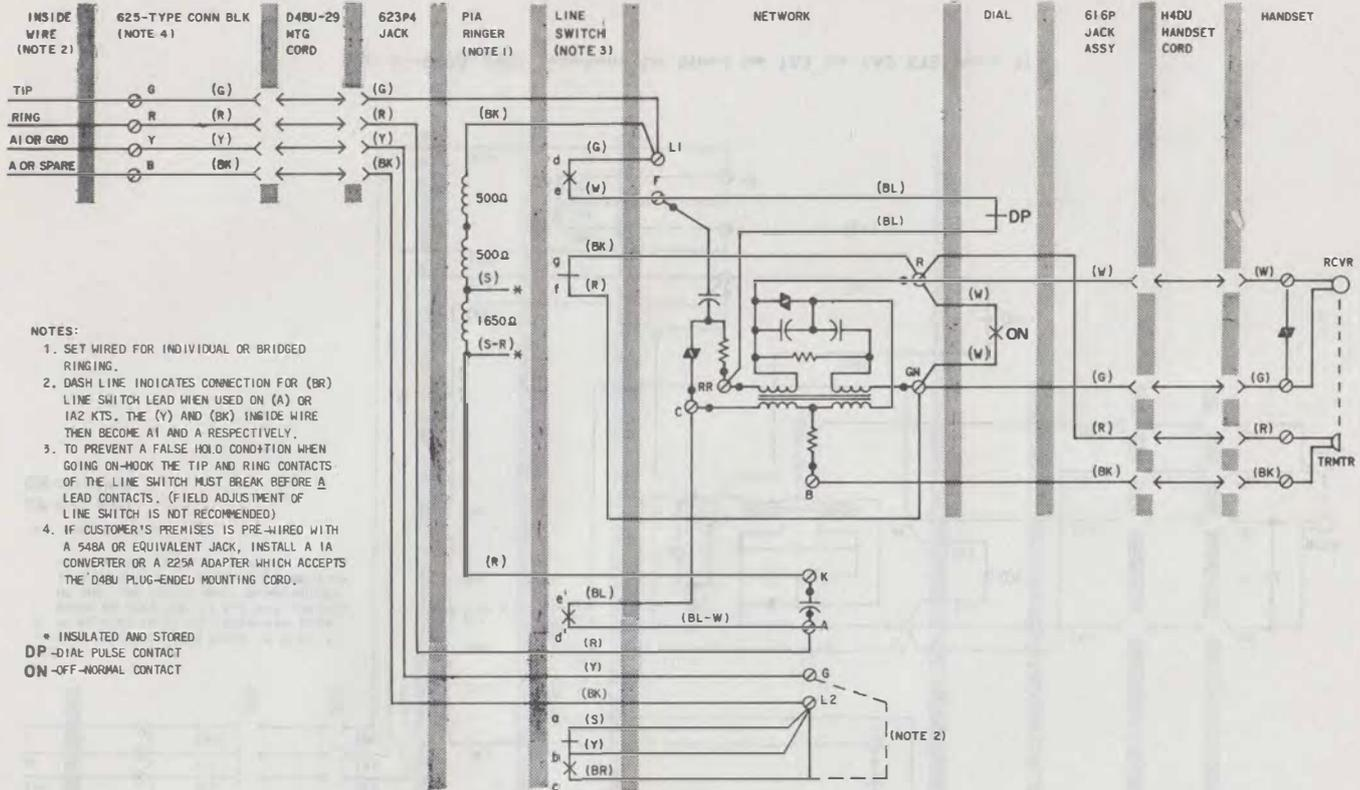

Fig. 7—900B Telephone Set, Connections for Key or Monkey
Note: For 900B or 2900B telephone set, the only modification needed is to move (BR) line switch lead from network terminal L2 and connect to terminal G. See Fig. 7 and 10.